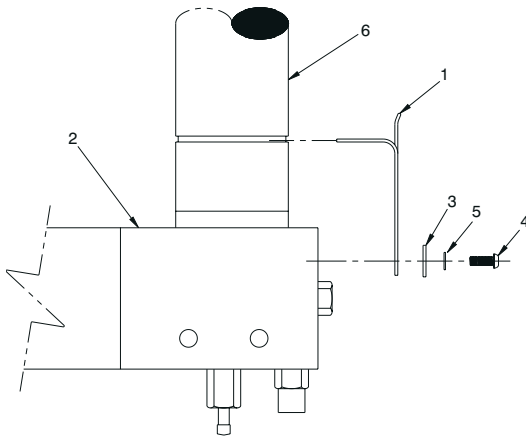

Figure 6-3. Reservoir Retainer
Housing (28, Figure 10-1) and gasket (27) are correctly in place. Install grease cartridge (Section 7.1) before final adjustment of the spring clip (1, Figure 6-3).
1. Install the spring clip (1) on the side of the pump head (2) with plate (3), cap screws (4) and lock washers (5) as shown in Figure 6-3.
2. With Grease Housing (6) installed and tightened as required, adjust the fingers of the spring clip (1) so that they firmly retain the housing.
3. Tighten two cap screws (4).